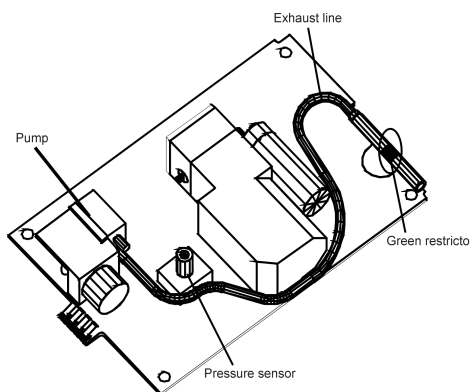

Figure 7-8: Exhaust line
Note: When replacing the main line, in order to fit the main line on the board without twists and kinks, coil the tubing around the pressure sensor (refer to Figure 7-8).
7.5.1.2 Replacing the Exhaust line (Refer to Figure 7-8)